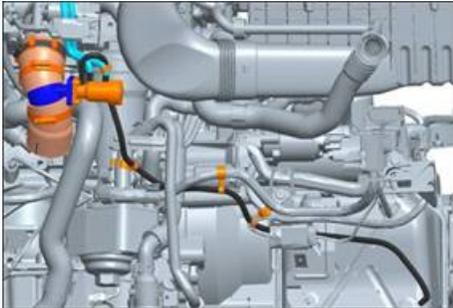

Figure 3
- Route vacuum overlay harness as seen in figures 3 and 4.